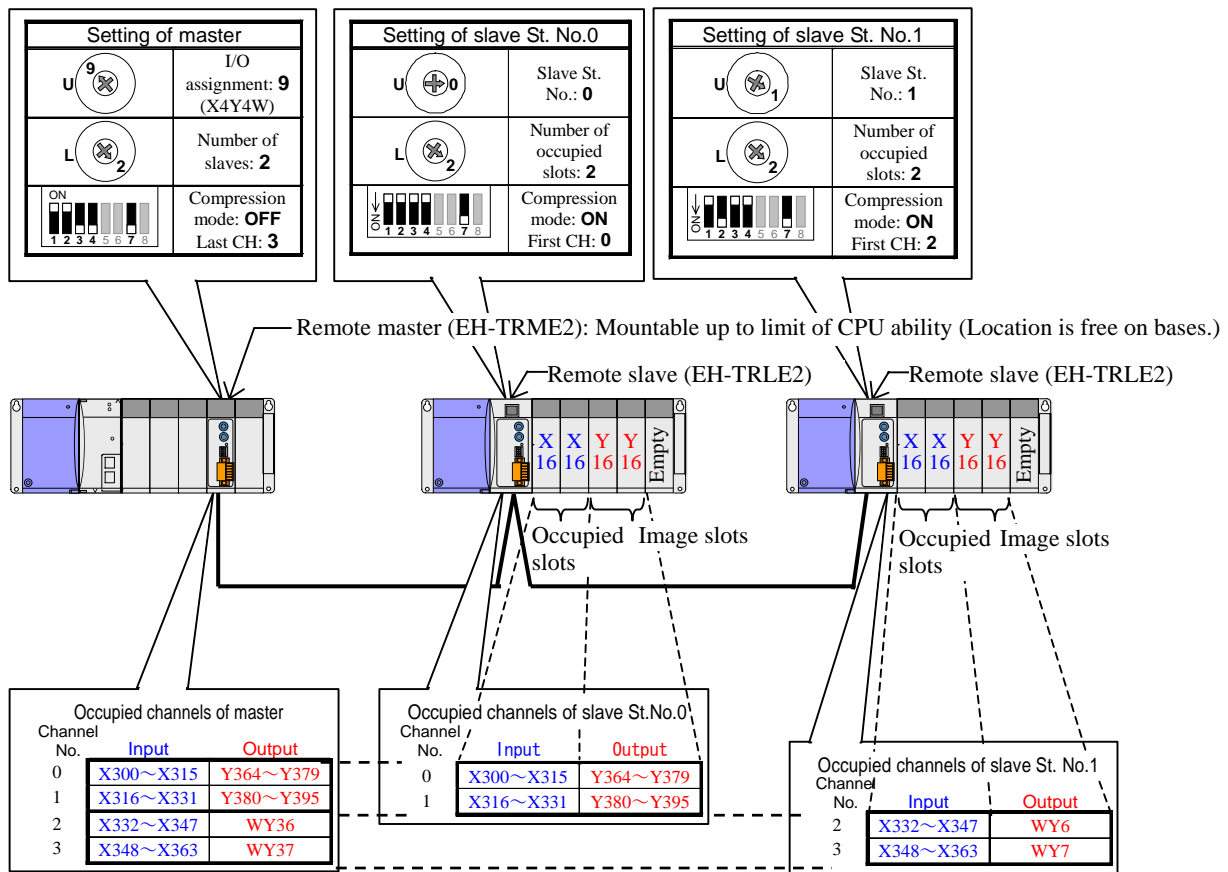

Figure 4.5.4 System configuration example after replacement to EH-150 (Mode2)
Figure 4.5.4 shows replaced system configuration example with compact remote2.
Figure 4.5.4 is an example of replacing all of master and slave modules with the EH-150 series. It is also possible to leave all or partially slave modules like the H-200 series in order to postpone the wiring work of slaves. In this case, please turn off high-speed refresh mode (HS) of a front DIP switch of the master module and the slave modules, and turn on communication mode (MODE) of a front DIP switch of them.